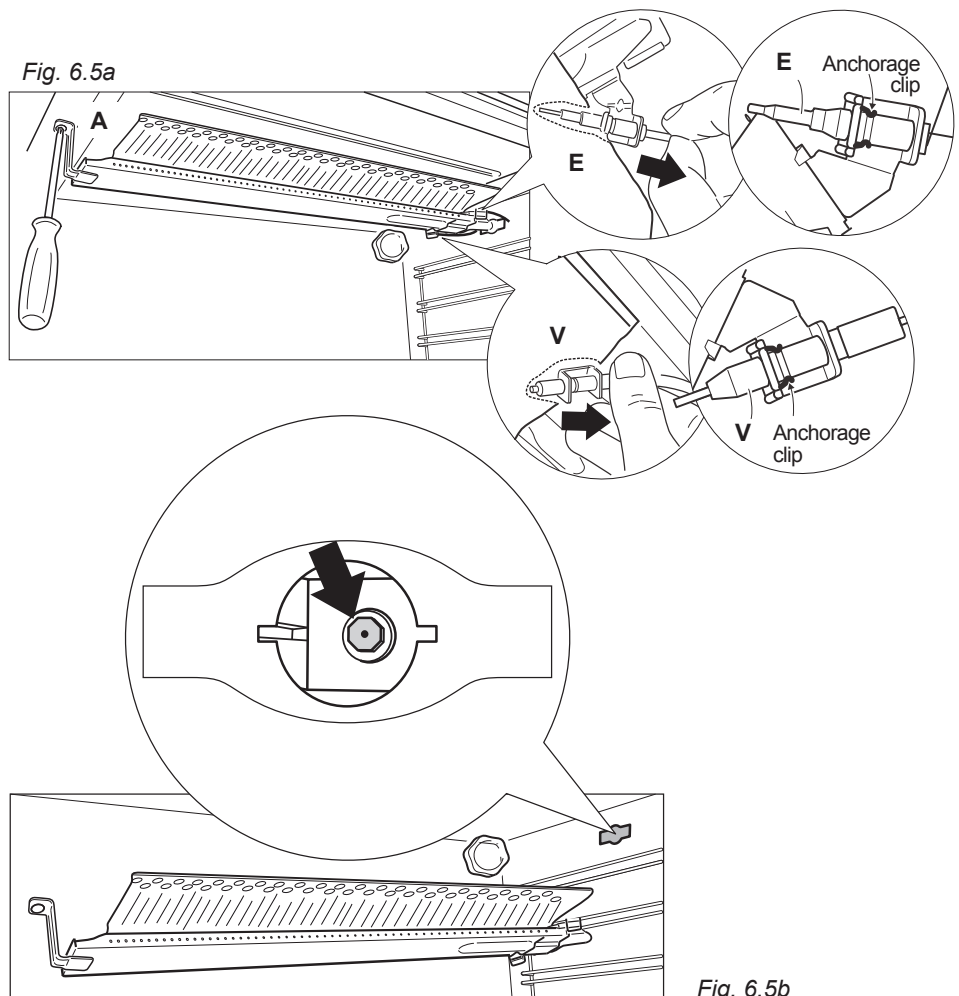

Fig. 6.5b
- Withdraw the burner as shown in figure 6.5b.
- Using a 7 mm box spanner, unscrew the injector (indicated by the arrow in fig. 6.5b) and replace it with a new one selected in accordance with the “Table for the choice of the injectors”.